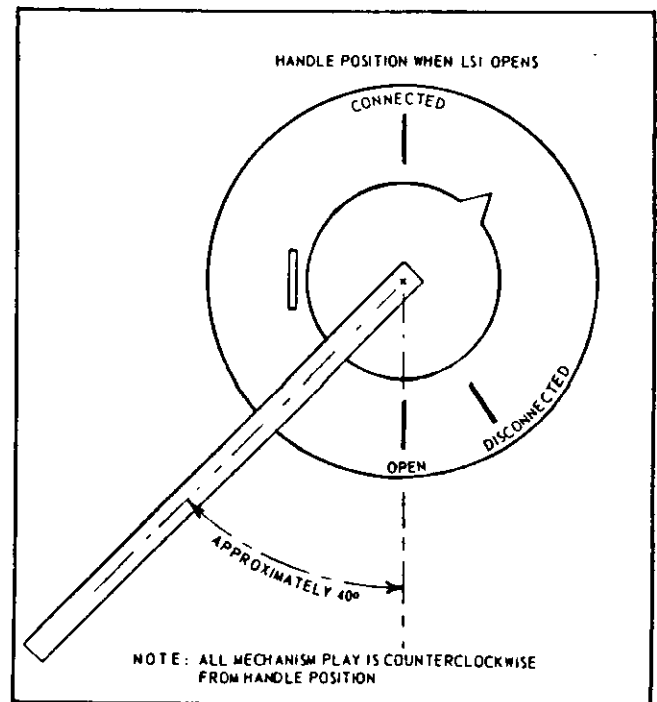

Fig. 26 - Handle shows line switch interlock relationship.
Normally, when the carriage is in the racked in position, the leaf spring will be 50% compressed. (See Fig. 26 and Instructions page 12.)
3. Rack carriage out slowly. Contact should be broken at 35° to 45° of handle rotation. (See Fig. 26.)